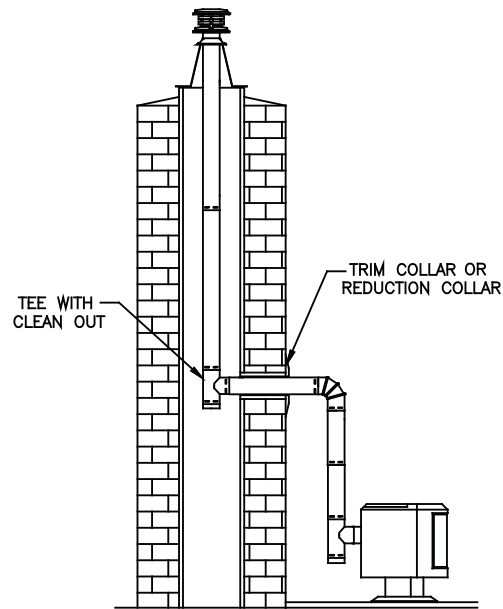

Figure 26
- B.** A Tee Section is installed at the bottom end of the vertical pipe **(Figure 26)**.